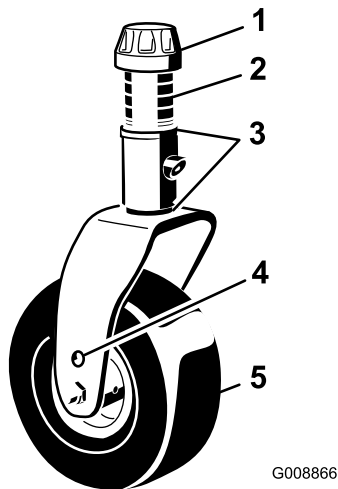

Figure 20
2. Position the castor wheel axles in the same holes in both castor forks (Figure 20). Use the lower castor fork axle mounting holes to attain higher blower nozzle height.
3. Remove the tensioning cap from the spindle shaft (Figure 20) and slide the spindle out of the castor arm. Put the 2 shims (1/8 inch) onto the spindle shaft as they were originally installed. These shims are required to achieve a level across the entire width of the blower. Slide the appropriate number of 1/2 inch spacers onto the spindle shaft to get the desired height; then slide the washer onto the shaft